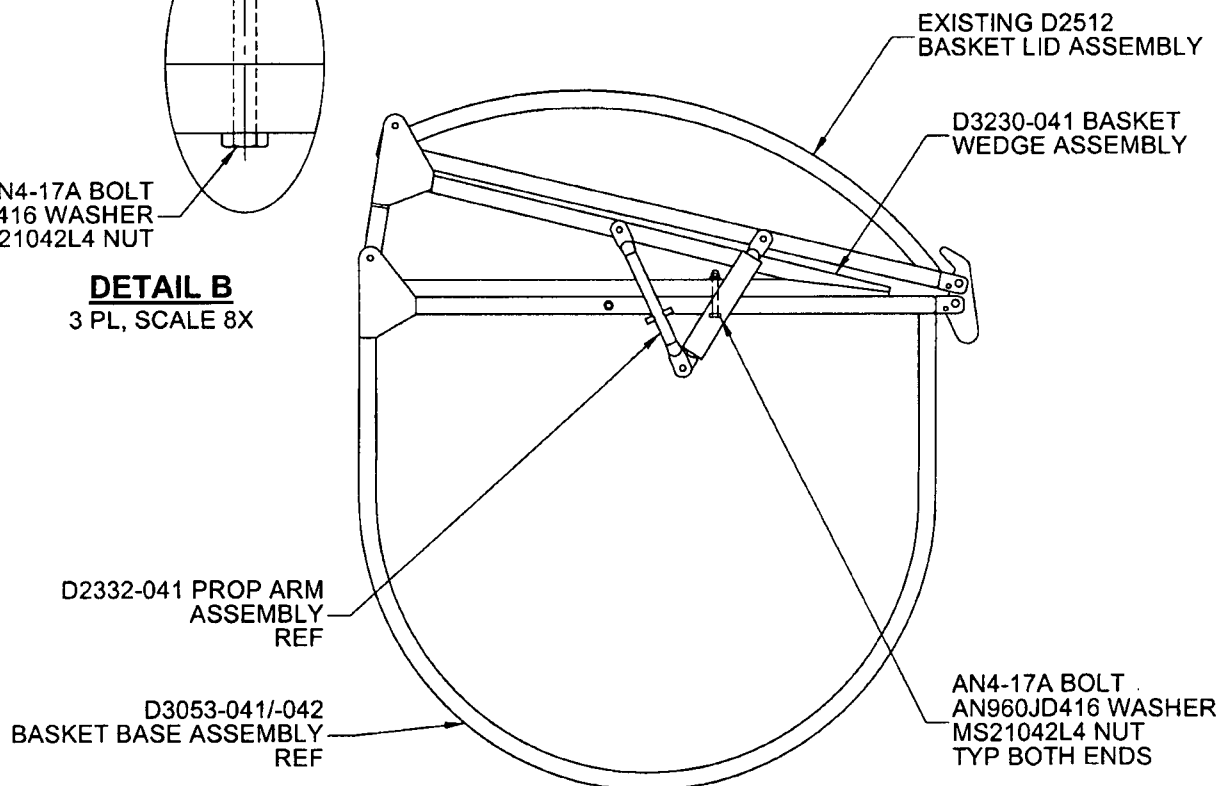

**FIGURE 1 - LOOKING OUTBOARD**
- 2) ATTACH LID TO D3230-041 BASKET WEDGE ASSEMBLY. MOVE D2332-041 PROP ASSEMBLY FROM BASKET BASE TO WEDGE ASSEMBLY PER FIGURE 1.